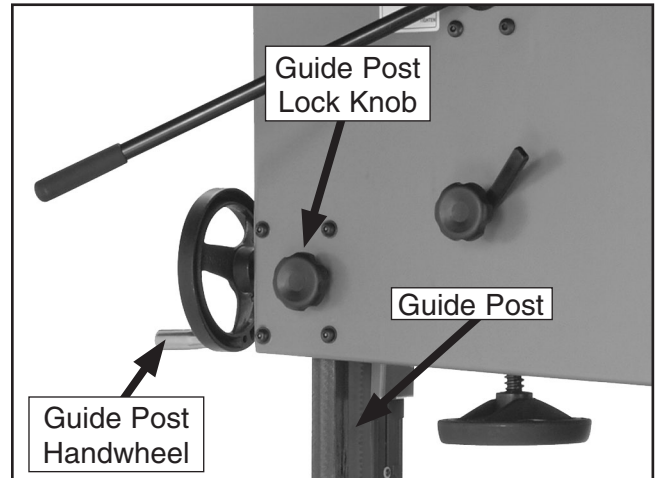

Figure 39. Guide post controls.
The guide post, shown in **Figure 39**, connects the upper blade guide assembly to the bandsaw. The guide post allows the blade guide assembly to move up or down via a rack and pinion. In order to cut accurately, the blade guide assembly must be no more than 1" from the top of the workpiece at all times—this positioning provides the best support for the blade.
2. Loosen the guide post lock knob shown in **Figure 39**.